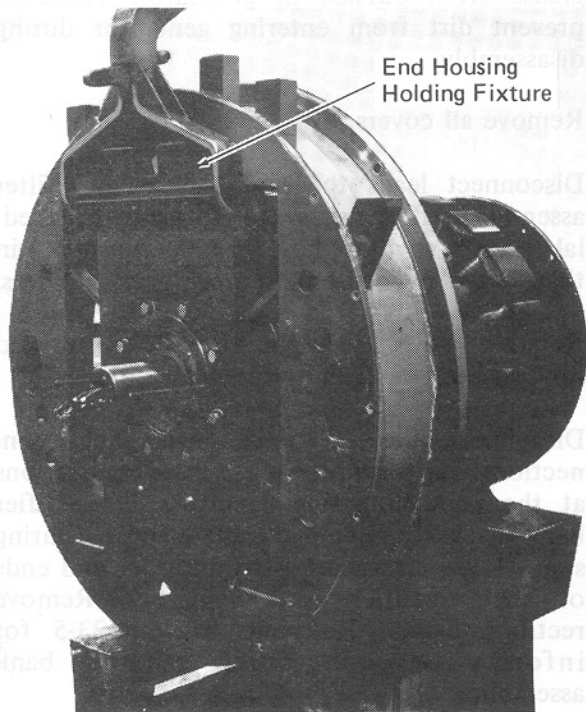

Fig. 7 - Attaching Crane Cable To End Housing
8. Support end housing with another crane cable and end housing holding fixture, Fig. 7. Remove eight 3/4"-10 bolts securing end housing to stator frame.